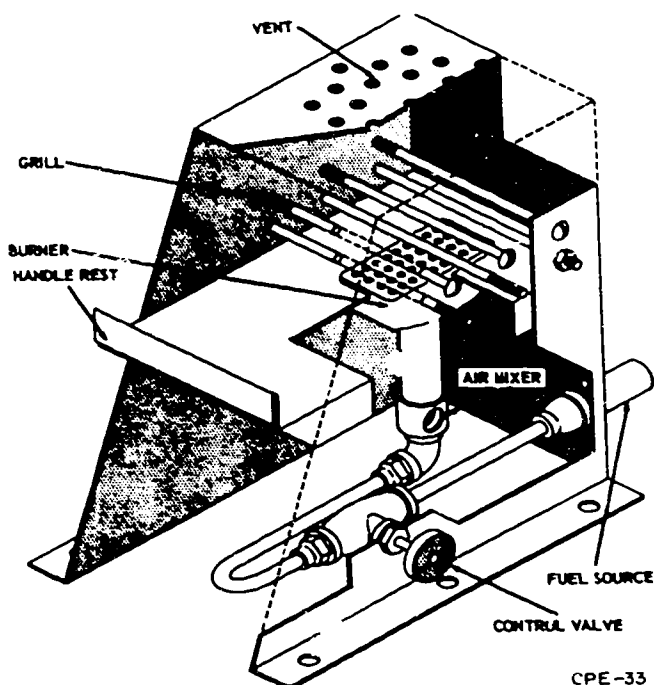

Figure 4-10. Tinner's furnace.
**Tinner's furnace.** A tinner's furnace, shown in figure 4-10, is used to heat soldering coppers for jobs being soldered in the shop. The furnace is mounted on a bench and may be a single or double burner model. It uses natural or artificial gas for fuel and is equipped with an adjustable control valve. Some furnaces have a pilot burner to ignite the main burner more quickly and easily. The single-burner tinner's furnace is recommended for coppers up to the 6-pound size, and the double-burner furnace is recommended for heavier coppers. Be sure to read and observe all safety rules when you are operating a tinner's furnace, since it can be hazardous if improperly used.